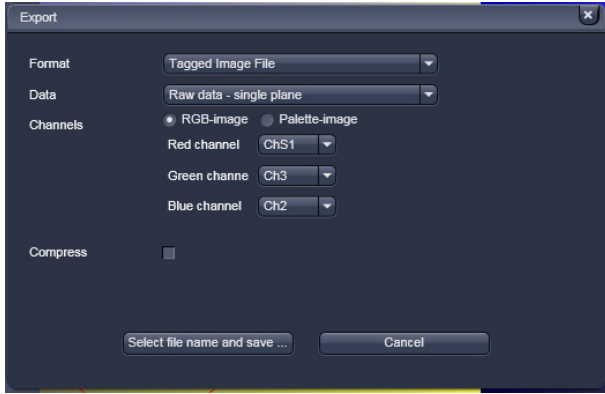

Fig. 338 Export window
- This opens the **Export** window (Fig. 338).